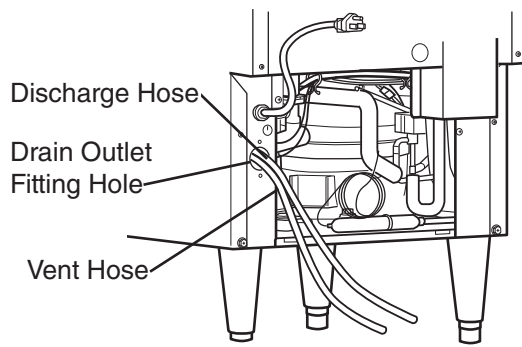

Fig. 5
5) Route the discharge hose and vent hose through the drain outlet fitting hole. See Fig. 5.